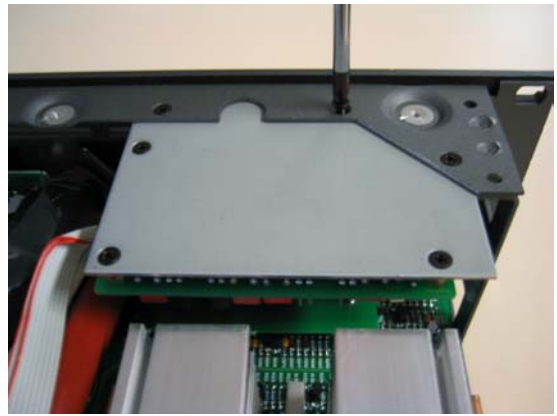

Bild 5
- 6 Use the three supplied self-tapping M3 x 8 screws to attach the filter module holding plate to the left front of the power amp chassis (figure 5). Make sure that the flat wire cables point to the inside of the appliance.